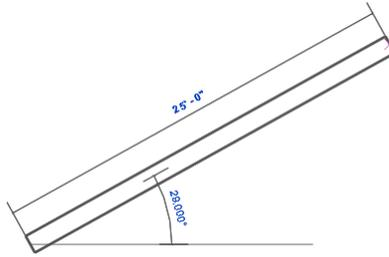

Figure 3-31 The temporary dimensions displayed on the wall
- e. Invoke the **Line** sketching tool and then sketch the exterior walls based on the given parameters, refer to Figures 3-31 through 3-38.
- Right-click in the drawing area; a shortcut menu is displayed. Choose the **Zoom In Region** option from the shortcut menu and zoom into the area to get a closer view of the sketched wall segment, as shown in Figure 3-31 (for zooming techniques, refer to Chapter 2- Starting an Architectural Project).